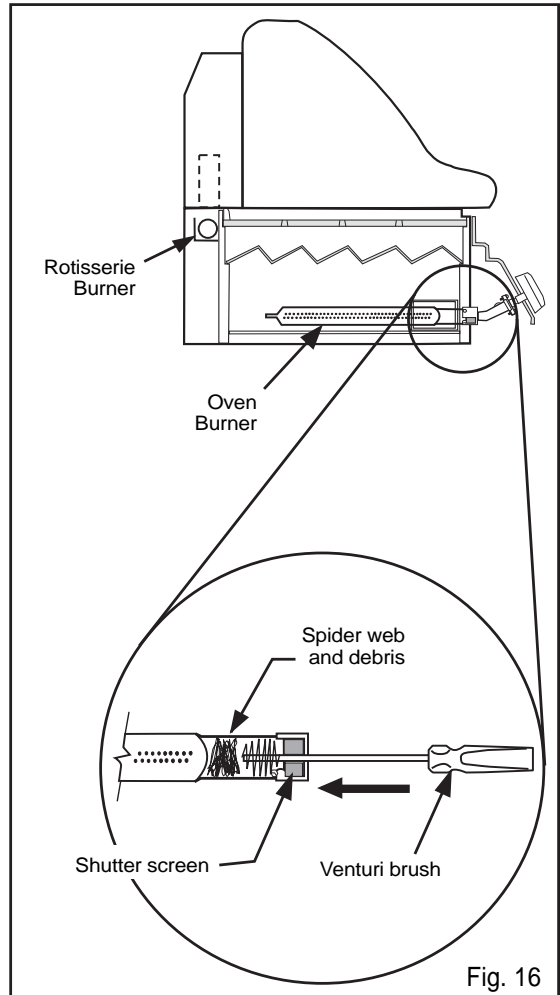

Fig. 16
**WARNING:** Always inspect the air shutter screen periodically to confirm that it is clear of food residue, spider webs or other insect debris. A clogged venturi tube can cause a fire to occur beneath the Grill, due to a flashback of gas (see Fig. 16).
- Loosen the burner attachment screws (from inside) to allow the burners to be pulled away from the valves far enough for a venturi brush or suitable cleaning device to be inserted into the burner venturi to clean away debris (see Fig. 16). Be careful not to damage the electrode ceramics.